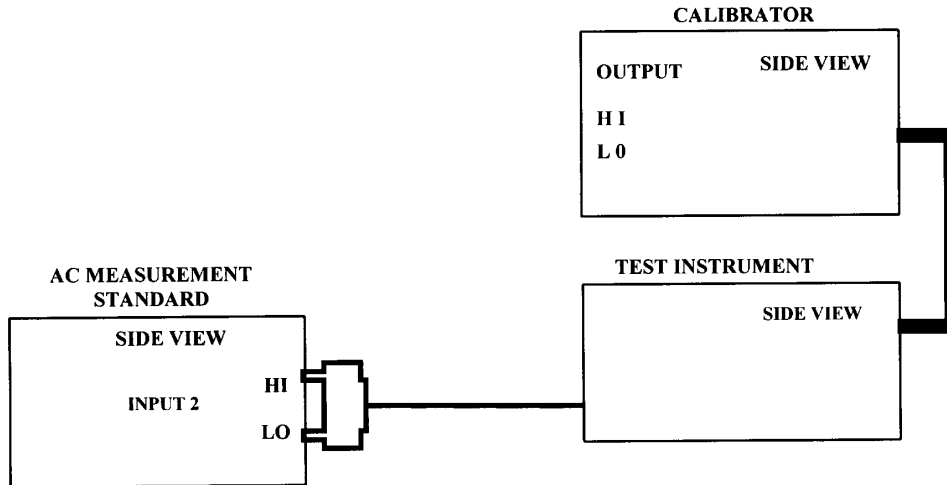

Figure 17. High voltage
(1) Connect equipment as shown in figure 17. Press **INPUT 2** pushbutton on ac measurement standard.